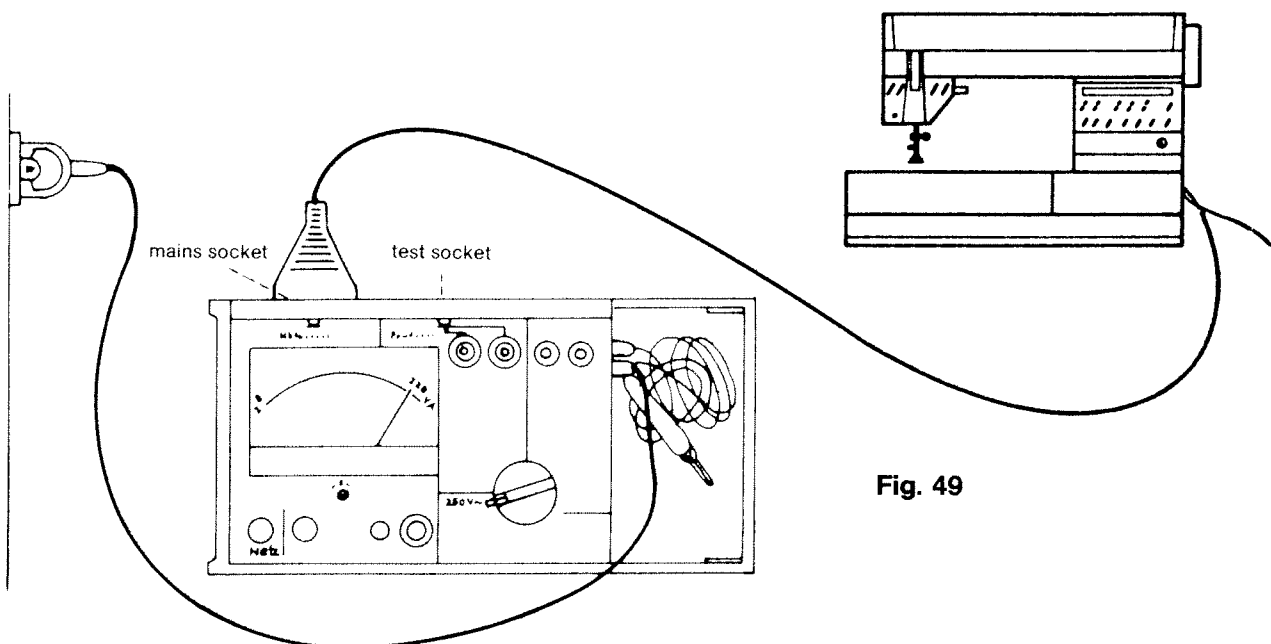

Fig. 49
- For all following tests insert plug of Metrator in the grounded mains socket (see Fig. 49), the left lamp for mains current must then be continuously lit.